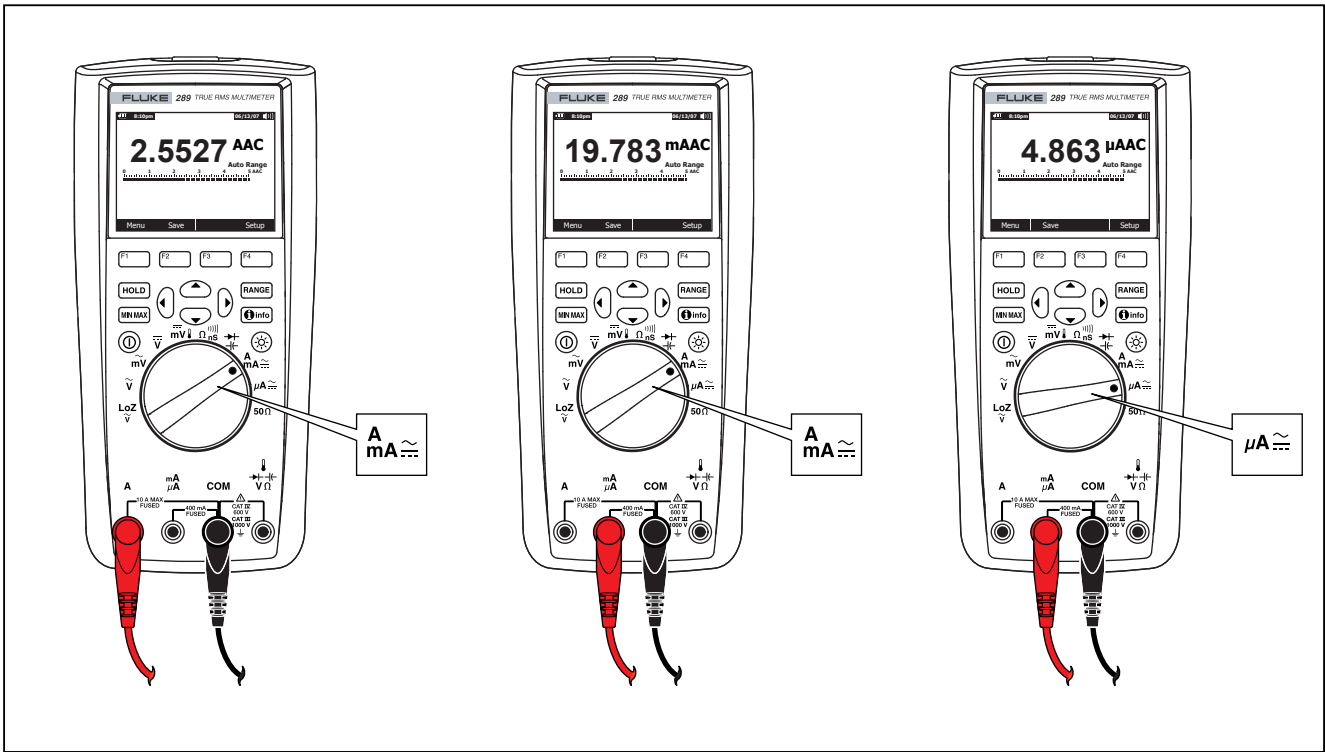

Figure 21. Current Measurement Setup
3. If you are using the A terminal, set the rotary switch to $\text{A}_{\text{MA}} \sim$. If you are using the mA/μA terminal, set the rotary switch to $\mu\text{A} \sim$ for currents below 5000 μA (5 mA), or $\text{mA}_{\text{MA}} \sim$ for currents above 5000 μA. See Figure 21 for test lead connections and function selection. Refer to the "Input Alert Feature" section for information on the alerts the Meter uses when leads are not used correctly for current measurements.